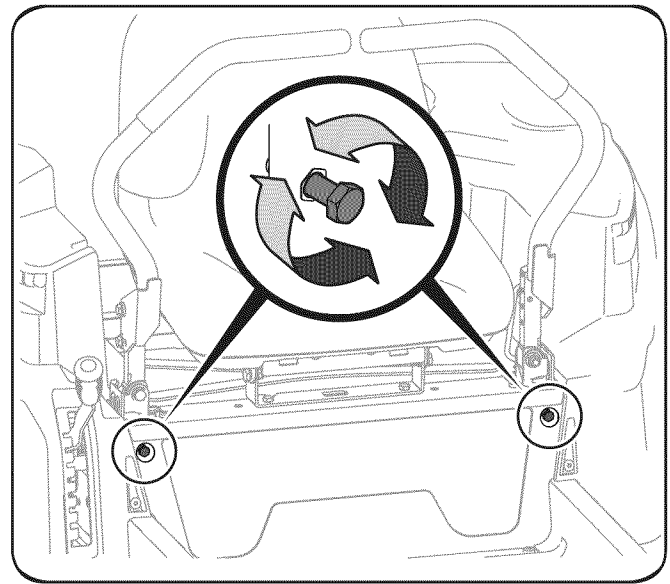

Figure 27
2. Locate the drive control lever stop adjustment bolts on the front of the seat frame. See Figure 27.